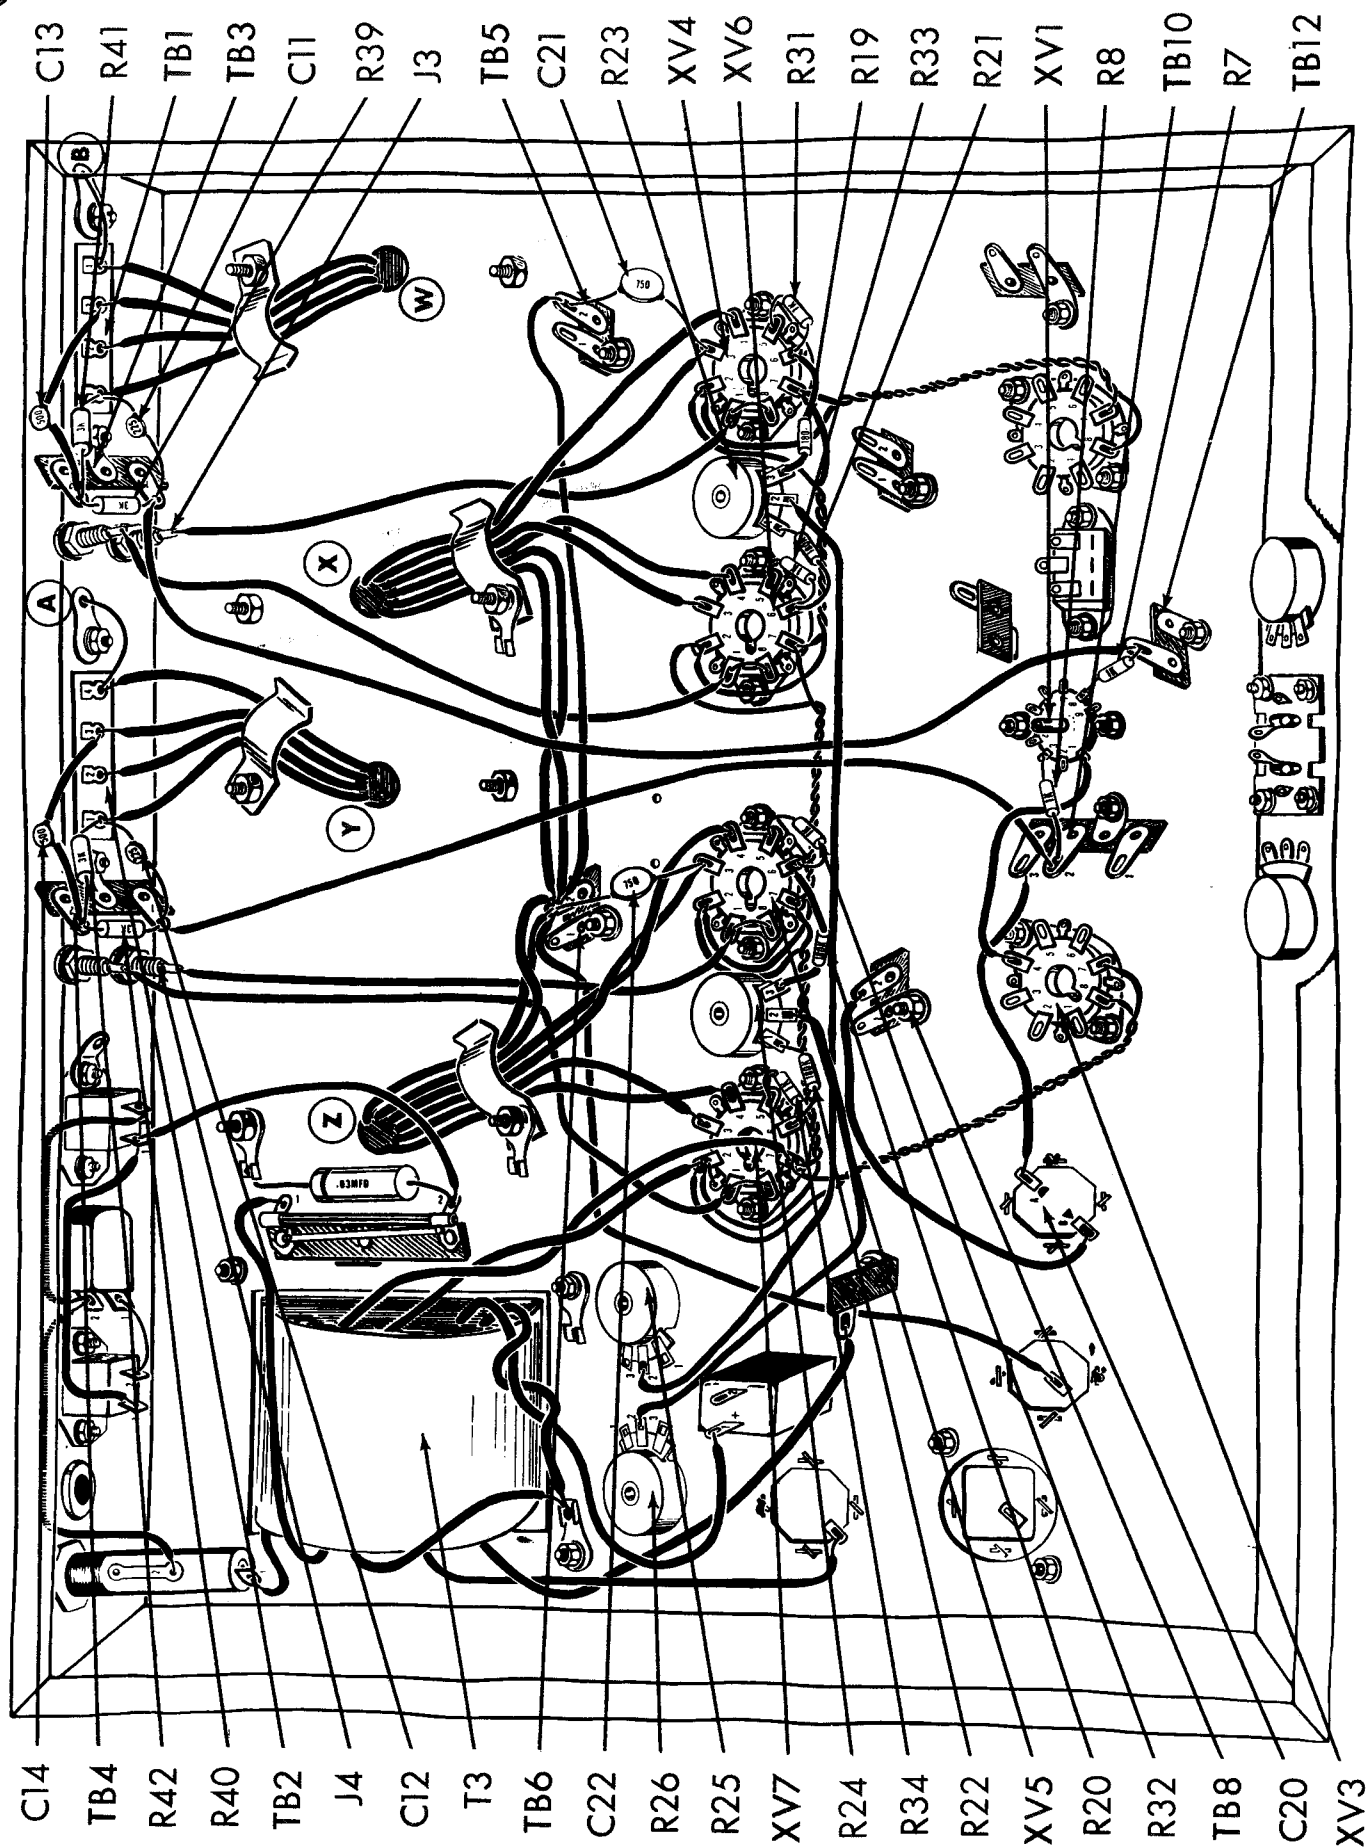

Fig. 4
- ( ) 1. Fig. 4. Connect an 7" piece of yellow wire from XV5-1 (C) to J4 (S1).
- ( ) 2. Fig. 4. Connect an 7" piece of yellow wire from XV4-1 (C) to J3 (S1).
- ( ) 3. Fig. 4. From power transformer T3 twist the two green leads together. Run them along the chassis as shown. Connect the shorter green lead to XV7-2 (S4) and the other green lead to XV7-7 (S3). Dress the green leads away from RS1 so that the spring contact has free action.
- ( ) 4. Fig. 4. Connect a 1 1/2" piece of bare wire from TB2-4 (C) to ground lug "A" (S1).
- ( ) 5. Fig. 4. Connect a 1 1/2" piece of bare wire from TB1-4 (C) to ground lug "B" (S1).
- ( ) 6. Fig. 4. From hole "W", the leads have been run under cable clamp #3. Connect the black lead to TB1-4 (S2), the white lead to TB1-3 (C), the green lead to TB1-2 (S1) and the yellow lead to TB1-1 (C).
- ( ) 7. Fig. 4. From hole "Y", the leads have been run under cable clamp #4. Connect the black lead to TB2-4 (S2), the white lead to TB2-3 (C), the green lead to TB2-2 (S1) and the yellow lead to TB2-1 (C).
- ( ) 8. Fig. 4. Connect a 7" piece of red wire from TB6-2 (C) to TB5-2 (C).
- ( ) 9. Fig. 4. The leads from hole "Z" have been run under cable clamp #1. Run the leads from cable clamp #1 as shown. Connect the red and red-yellow leads to TB6-2 (C), the brown lead to XV5-3 (C), the brown-yellow lead to XV5-4 (S1), the blue lead to XV7-3 (S1) and the blue-yellow lead to XV7-4 (S1).
- ( ) 10. Fig. 4. The leads from hole "X" have been run under cable clamp #2. Run these leads from cable clamp #2 along the chassis as shown. Connect the red and red-yellow leads to TB6-2 (C), the brown-yellow lead to XV4-4 (S1), the brown lead to XV4-3 (C), the blue lead to XV6-3 (S1) and the blue-yellow lead to XV6-4 (S1).
- ( ) 11. Fig. 4. Cut all leads on four 3K (orange, black, red, gold) 5% resistors, R39, R40, R41 and R42, to 3/4". Connect R39 from TB3-1 (C) to TB3-2 (C). Connect R40 from TB4-1 (C) to TB4-2 (C). Connect R41 from TB1-1 (C) to TB3-2 (C). Connect R42 from TB2-1 (C) to TB4-2 (C).
- ( ) 12. Fig. 4. Cut all leads on two 225mmf disc capacitors, C11 and C12 to 3/4". Connect C11 from TB1-1 (S3) to TB3-1 (C). Connect C12 from TB2-1 (S3) to TB4-1 (C).
- ( ) 13. Fig. 4. Cut all leads on two 500mmf disc capacitors, C13 and C14, to 1". Cover each lead with a 3/4" piece of spaghetti. Connect C13 from TB1-3 (S2) to TB3-2 (S3). Connect C14 from TB2-3 (S2) to TB4-2 (S3).
- ( ) 14. Fig. 4. Connect an 11" piece of gray wire from TB3-1 (S3) to TB12 (C).
- ( ) 15. Fig. 4. Connect an 10" piece of gray wire from TB4-1 (S3) to TB10-2 (C).
- ( ) 16. Fig. 4. Cut all leads on two 750mmf disc capacitors, C21 and C22 to 1". Connect C21 from TB5-2 (S2) to XV4-3 (S2). Connect C22 from TB6-2 (S7) to XV5-3 (S2).
- ( ) 17. Fig. 4. Connect an 11 1/2" piece of orange wire from R25-2 (S1) to R23-2 (C).
- ( ) 18. Fig. 4. Connect a 5 1/2" piece of orange wire from R26-2 (S1) to R24-2 (C).
- ( ) 19. Fig. 4. Connect a 4" piece of green wire from XV3-4 (C) to XV1-1 (S1).
- ( ) 20. Fig. 4. Cut all leads on six 1K (brown, black, red, silver) resistors R7, R8, R31, R32, R33 and R34 to 1/2". Connect R7 from TB12 (C) to XV1-8 (C). Connect R8 from TB10-2 (C) to XV1-3 (C). Connect R32 from XV5-5 (S1) to XV5-6 (C). Connect R34 from XV7-5 (S1) to XV7-6 (C), R33 from XV6-5 (S1) to XV6-6 (C) and R31 from XV4-5 (S1) to XV4-6 (C).
- ( ) 21. Fig. 4. Cut all leads on two 180K (brown, grey, yellow, silver) resistors R21 and R22, to 3/4". Connect R21 from XV6-6 (C) to R23-1 (C). Connect R22 from XV7-6 (C) to R24-1 (C).
- ( ) 22. Fig. 4. Cut all leads on two 180K (brown, grey, yellow, silver) resistors, R19 and R20 to 1". Cover each lead with a 3/4" piece of spaghetti. Connect R19 from XV4-6 (C) to R23-1 (C). Connect R20 from XV5-6 (C) to R24-3 (C).
- ( ) 23. Fig. 4. Connect a 5" piece of orange wire from C20-B (C) to TB8-2 (C).